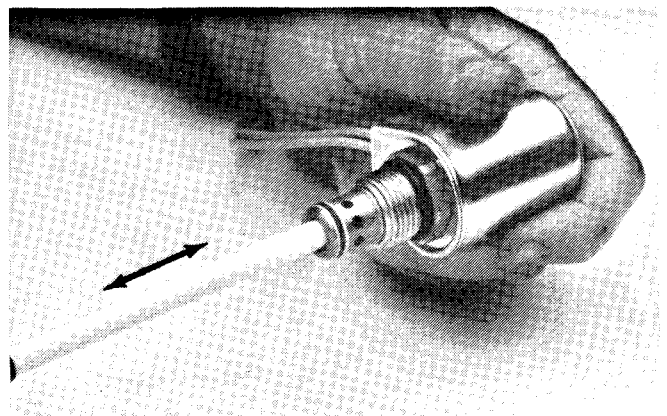

Figure 78
A. Use a blunt object of the approximate same diameter as the spool or poppet to carefully push on the spool or poppet from the bottom of the cartridge (Fig. 78). Movement should be smooth, without any sticking or hanging up during the full range of movement. Movement should be far enough to open up the proper cross holes in the cage. The spool or poppet should then return to its normal spring-held position freely, again closing off the cross holes in the cage. **NOTE:** Relief valves have a high spring force which may be difficult to overcome.